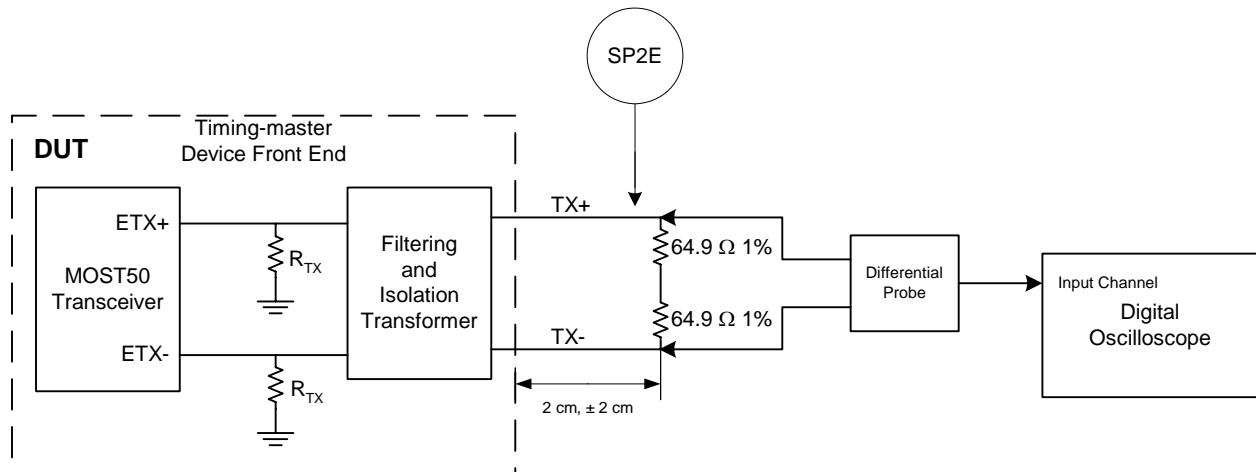
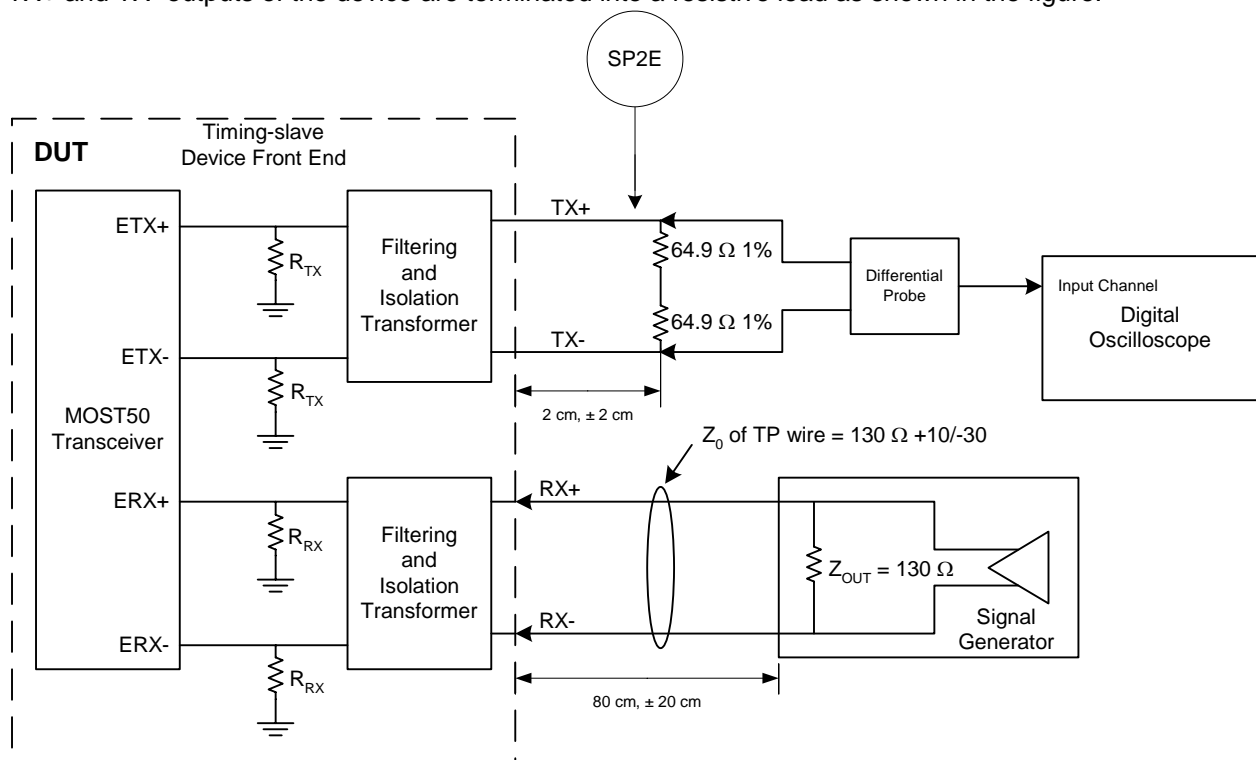

Figure 3-1: Device Transmission Quality Test Setup (Timing-master mode)
Figure 3-2: Device Transmission Quality Test Setup (Timing-slave mode)
Diagrams indicating the test setup used to capture an eye diagram for Device Transmission Quality are shown in Figure 3-1 and Figure 3-2. This specification point should be tested with the Device under test in one of the following configurations:
- Use the setup shown in Figure 3-1 when testing a DUT in Timing-master. The TX+ and TX- outputs of the device are terminated into a resistive load as shown in the figure.
- Use the setup shown in Figure 3-2 when testing a DUT in Timing-slave mode. The DUT is placed in node position 1 and locked to a reference signal from the Signal Generator. The TX+ and TX- outputs of the device are terminated into a resistive load as shown in the figure.
- Configure the system as shown in either Figure 3-1 or Figure 3-2, depending upon the type of DUT submitted for testing.